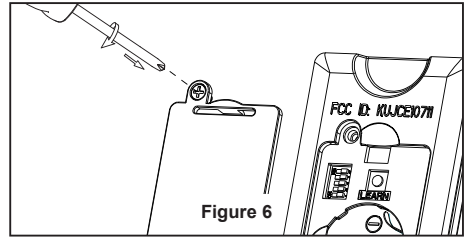

Figure 6
6. Secure the glass to switch housing assembly by twisting in a clockwise direction. Twist the glass gradually **until it snaps onto the switch housing assembly**. Do not over-tighten. (Figure 6)
6. Replace battery cover on the remote control and secure with the previously removed screw. (Figure 6)